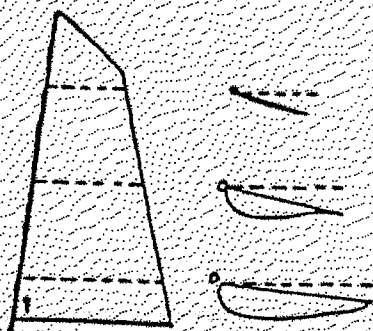

fig. 94
- You can not point as high as a result of an increase in depth by the mast which alters the angle of the wind which hits your sail. (fig. 94)